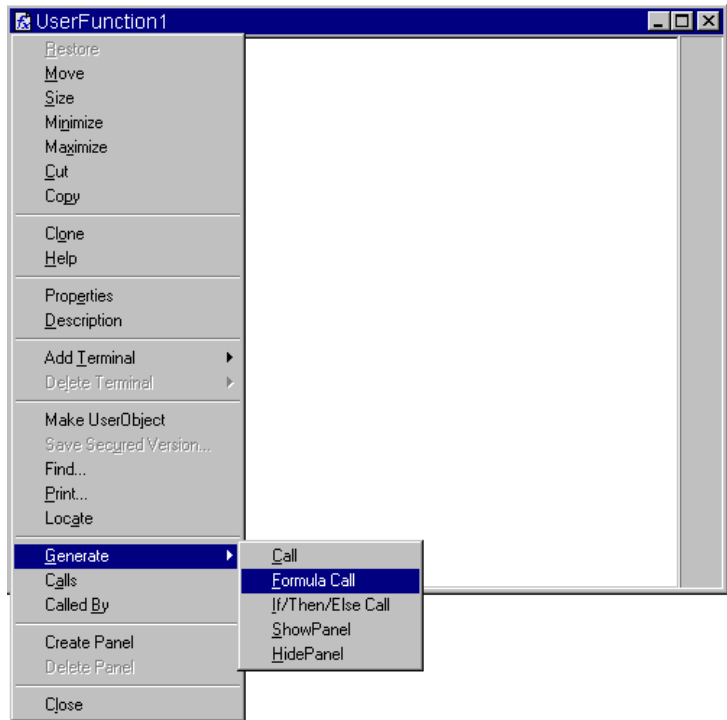

Figure 216 The Generate Menu in a UserFunction
- 2 In the UserFunction ArrayStats, select the object menu and select **Generate** ⇒ **Formula Call**. Figure 216 shows the Generate menu in a UserFunction object menu.